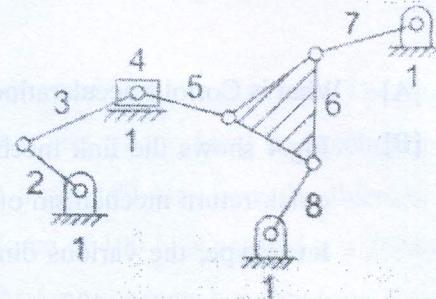

Fig.1
- [B] For the kinematic linkages shown in fig.1, calculate the following. [5]